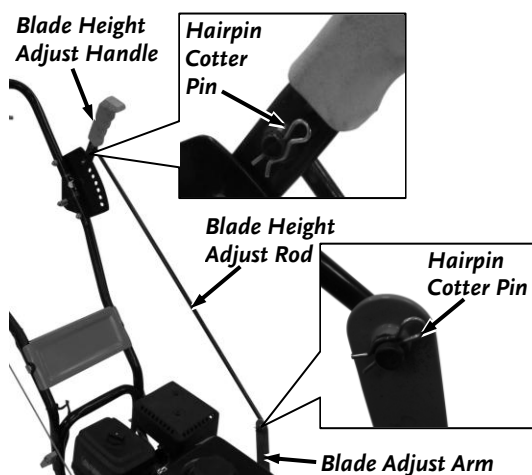

Figure 4
2. Slide one end of the Blade Height Adjust Rod into hole in the Blade Height Adjust Handle (**Figure 4**). Secure with Hairpin Cotter Pin.